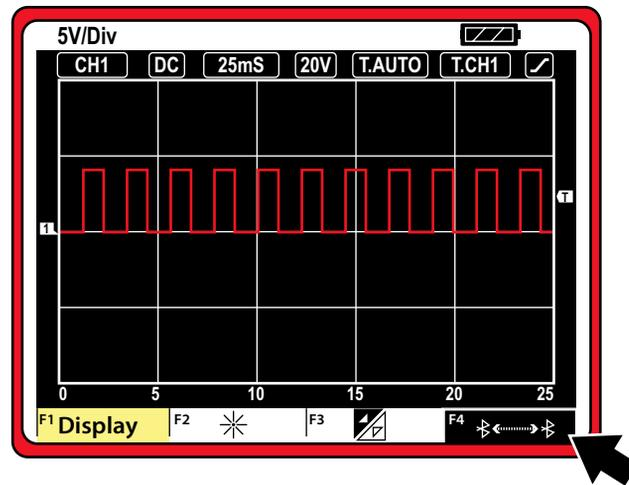

Figure 14-2 Bluetooth Discovery (shown enabled "on")
4. Press the **F4** key (once) to enable Bluetooth Discovery. Enabling Bluetooth Discovery allows the M2 Scope/Meter to be identified and paired to the Diagnostic Tool. The F4 field on the screen switches to inverse video (white on black) when the Bluetooth Discovery mode becomes enabled (Figure 14-2).